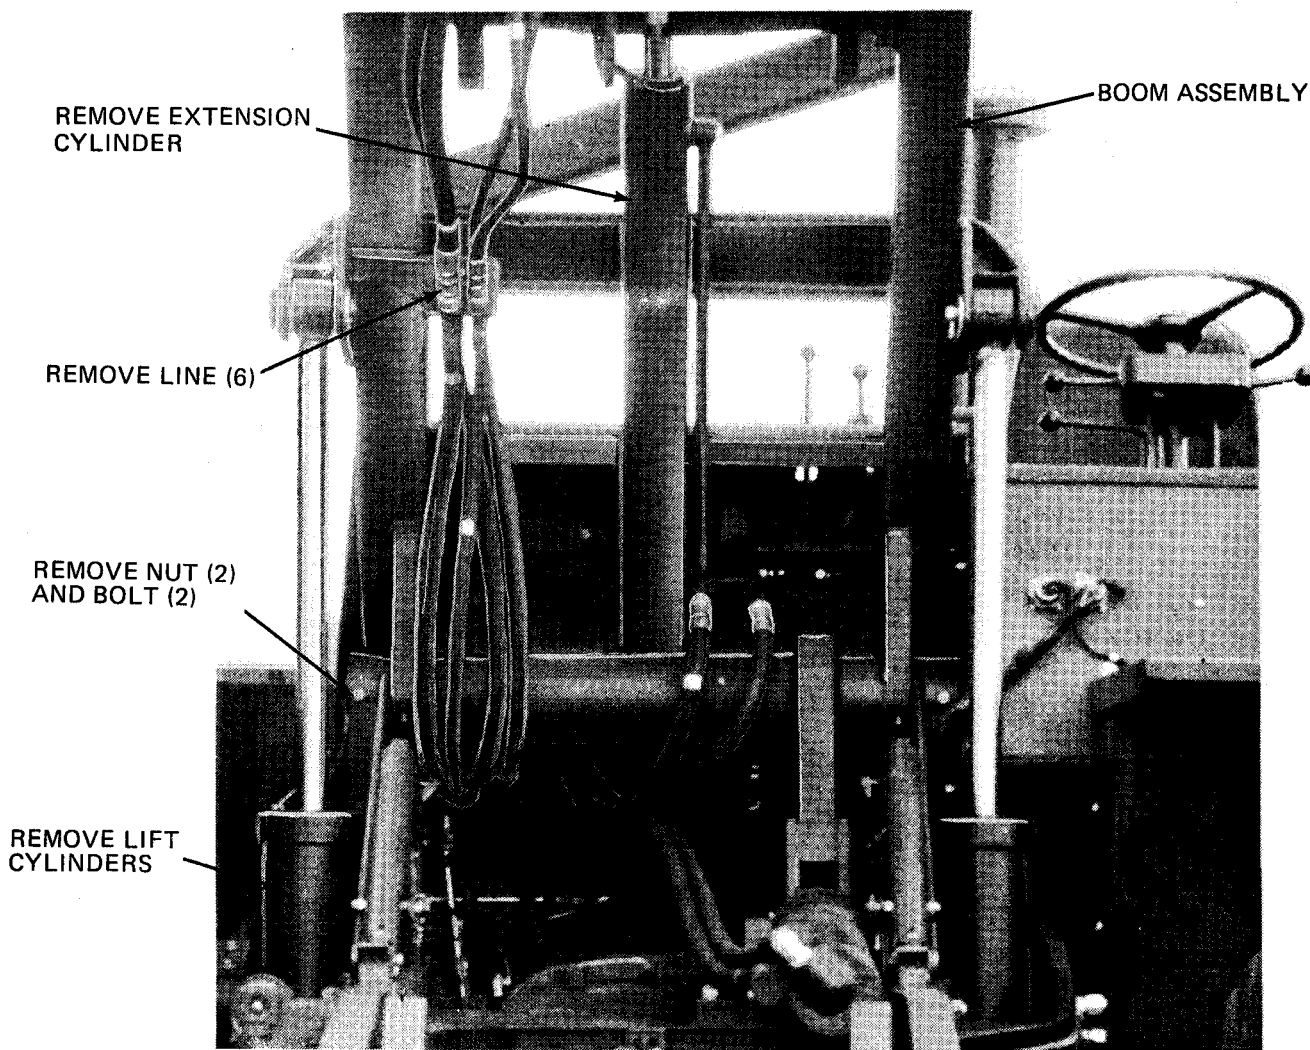

Figure 2-5. Boom assembly, removal installation.
- (1) Remove fork carriage assembly. Tag and disconnect hydraulic hoses. (TM 10-3930-634-12),
- (2) Disconnect slave cylinder (para 6-9) and extension cylinder (para 6- 11) from the boom assembly.
- (3) Remove the inner boom.
- (4) Disconnect hydraulic lift cylinders (para 6-6).
- (5) Attach a suitable lifting device and refer to figure 2-5 and remove boom assembly.
- (1) Refer to figure 2-5 and install the boom assembly.
- (2) Install the fuel tank (para 3-21).
- (3) Connect hydraulic lift cylinders (para 6-6).
- (4) Install the inner boom.
- (5) Connect slave cylinder (para 6-9) and extension cylinder (para 6-11),
- (6) Reconnect hydraulic hoses and install the fork carriage assembly (TM 10-3930-634- 12).